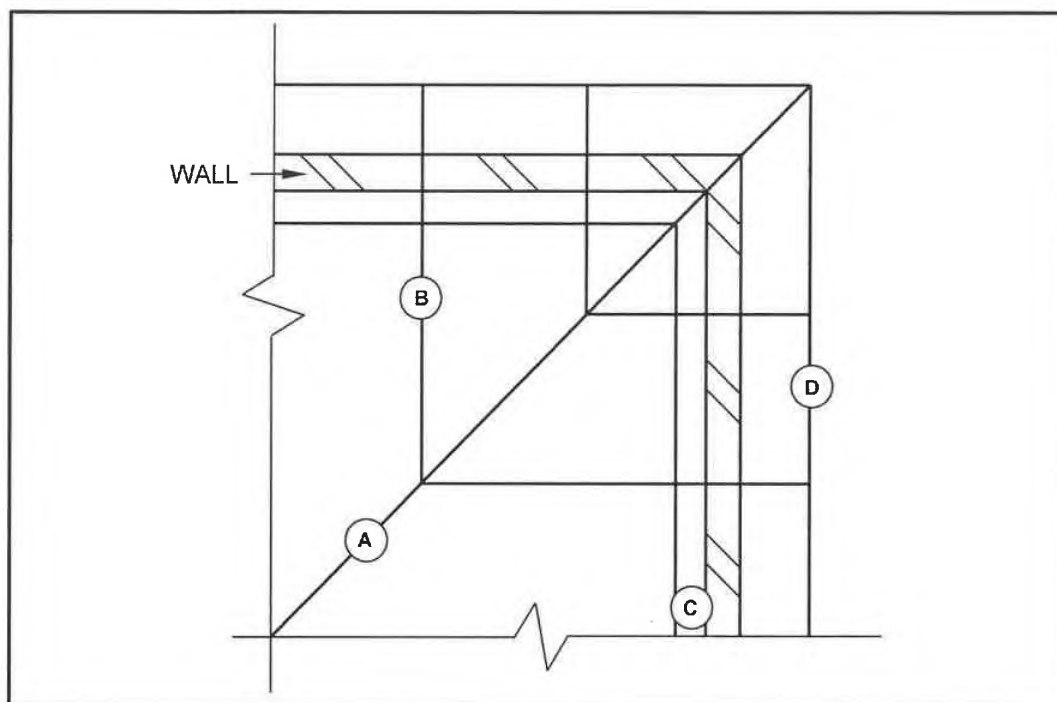

FIGURE 4.8
4.8 The sketch in FIGURE 4.8 below shows a line diagram of the layout of the roof members of a hipped roof on the corner of a building. Identify parts **A** to **D**.